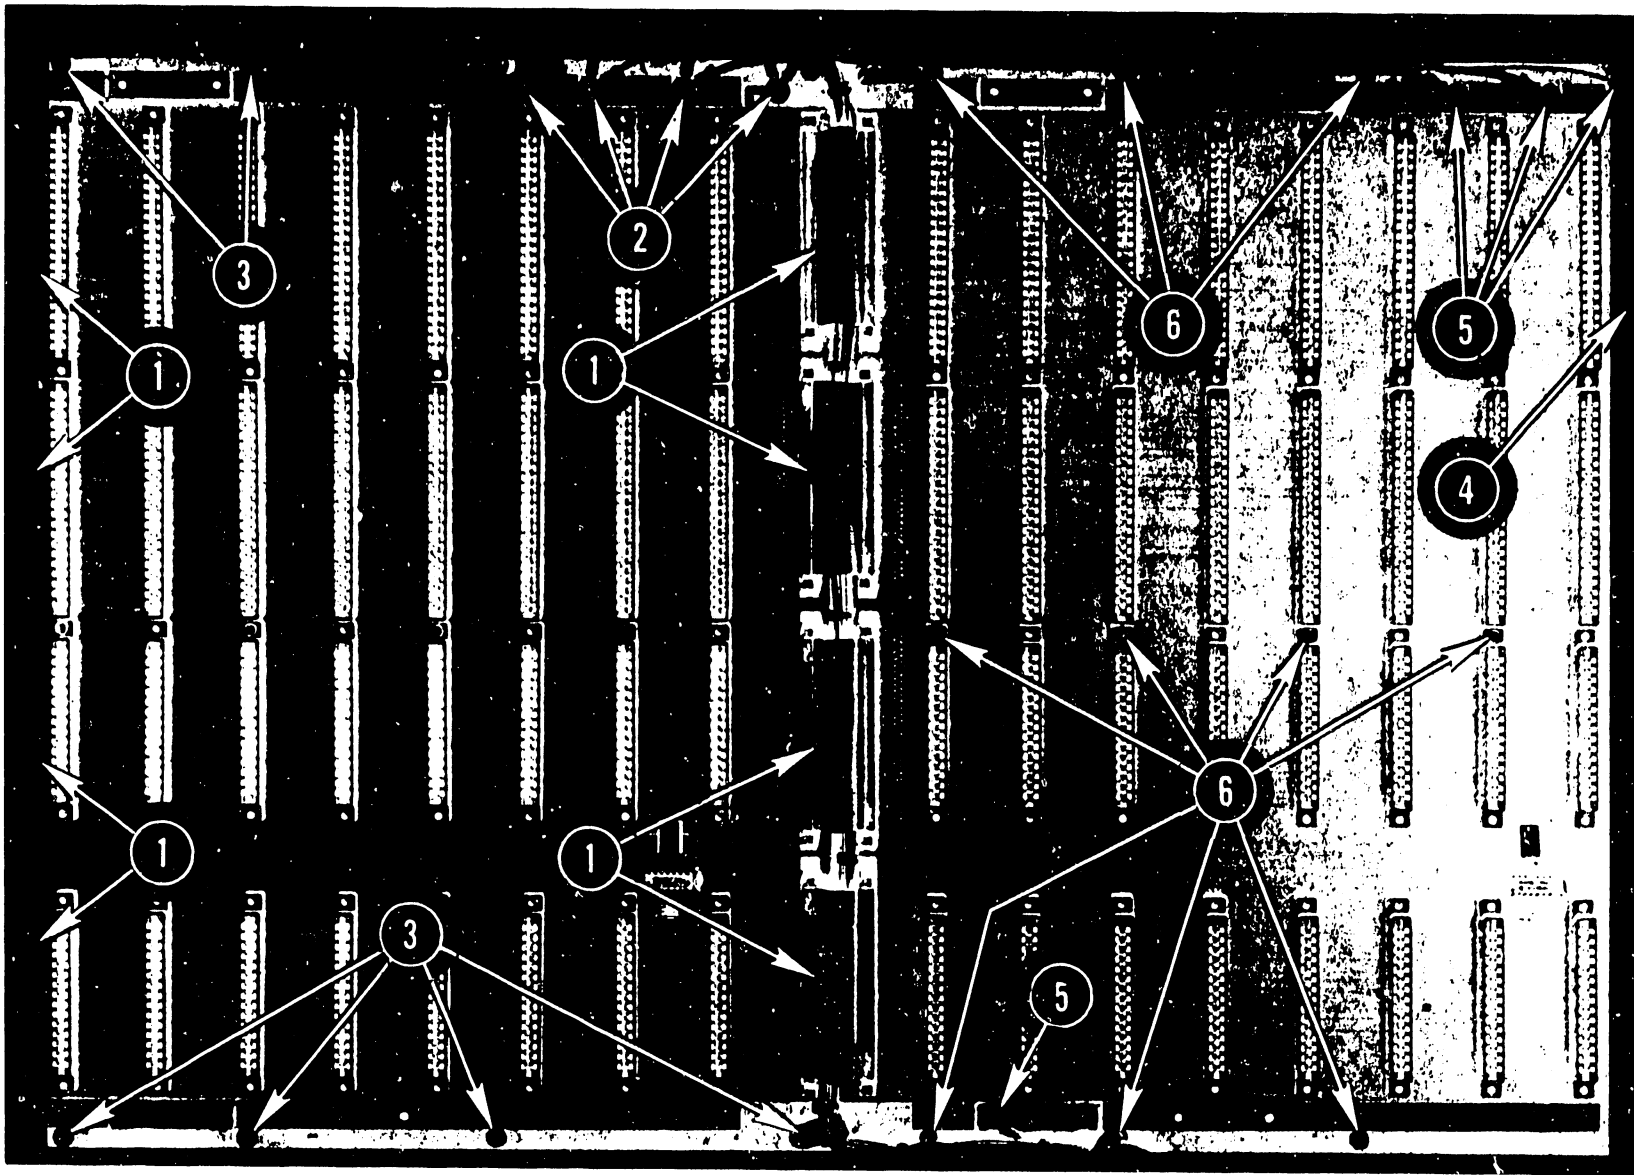

FIGURE 7-7 I/O MOTHERBOARD REMOVAL
Before removing either I/O motherboard, perform steps 1, 2, and 3 of the previous motherboard removal procedure. Remove the 210-7609 I/O Motherboards as follows: (See Figure 7-7.)
motherboard connectors J1 through J4, and J37 through J40. (Callout 1 on Figure 7-7.)
8. Using a $\frac{1}{4}$ -inch nut-driver, remove the four nuts securing wires to the back and front of the motherboard. (Callouts 5 on Figure 7-7.)
9. Remove all (8) Phillips-head screws located on the outer edges of the motherboard and the four Phillips-head screws located between card slots on the motherboard (callout 6).